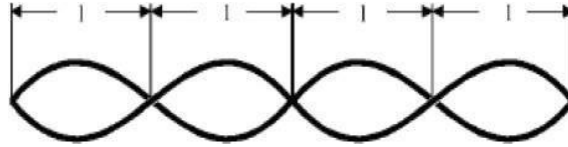

Figure 3 Wiring in iTraMS
- For CAN wiring, it is recommended to use a twisted pair (Figure 3).
- Twisted pair wires should be used for CAN signals (Figure 3).